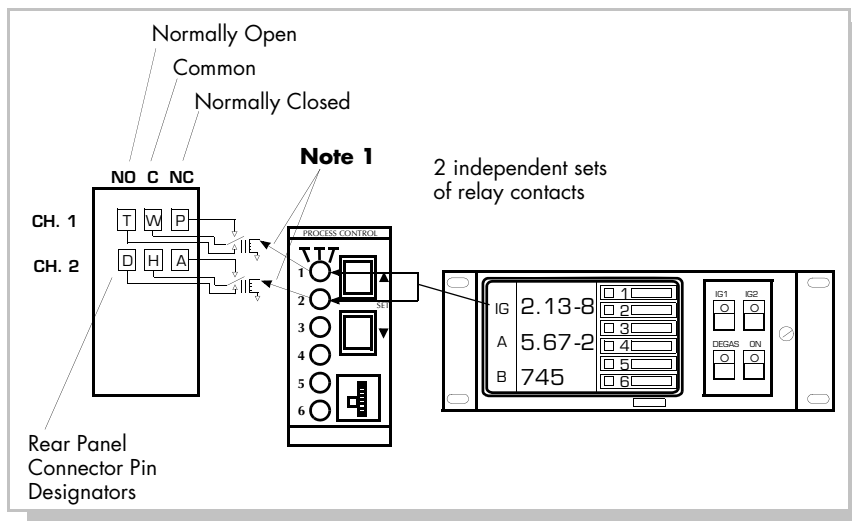

Figure 2-9 Two Channel Process Control
2. Use the catalog number on the front of the Process Control module together with Figures 2-9, and 2-10 to identify the process control capability installed in your unit.